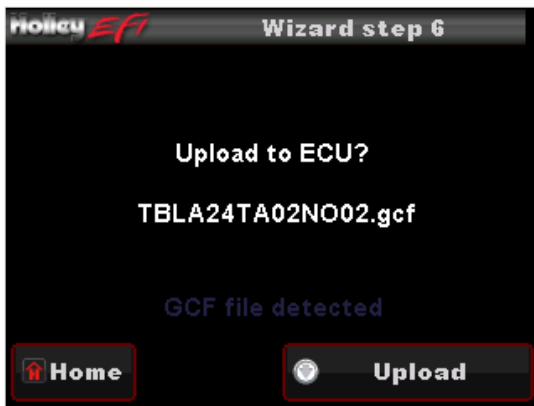

Figure 35
- After entering the ignition type, your calibration will be created (Fig. 35). Press the “Upload” button to send the calibration to the ECU. You will then see a screen showing “Uploading” (Fig. 36). Finally you will see a screen indicating the file is uploaded. Cycle the ignition switch for the calibration to take affect (Fig. 37). Proceed to section 18.0.